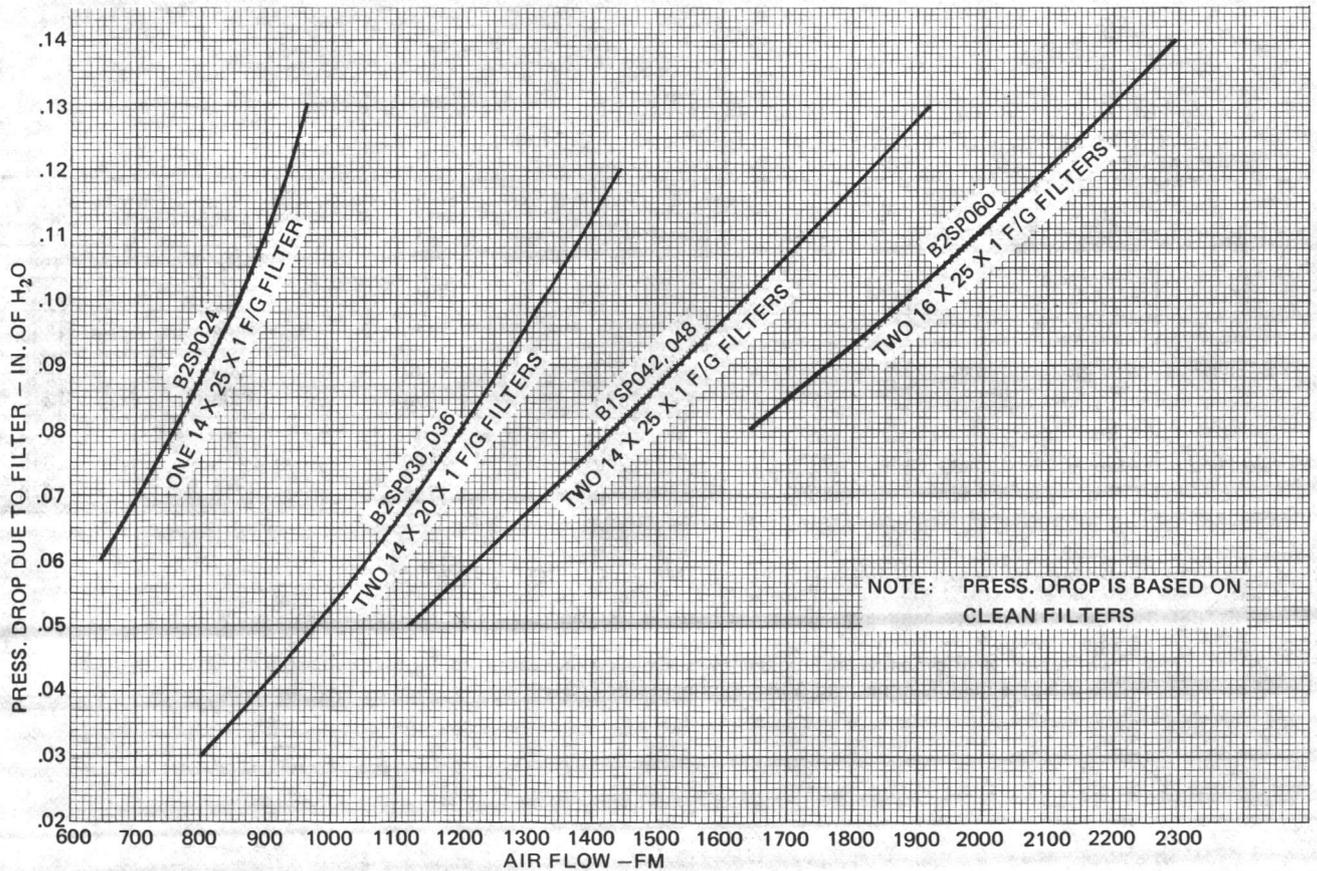

FIG. 8 — RECOMMENDED FILTER SIZE AND STATIC PRESSURE DROP
Filters must be field supplied and installed in the return air duct work. Refer to Fig. 8 for filter size.
3. Filters are to be field supplied and installed in the return air duct. Duct work must include provisions for the removal of filters for cleaning or replacement. See Fig. 8 for recommended filter size and pressure drop. Do not use filters with smaller face areas.